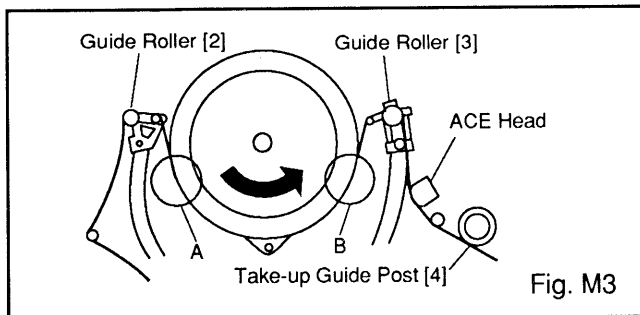
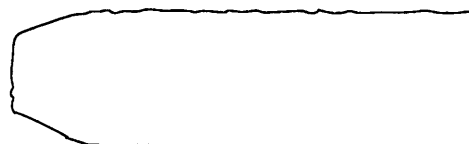

Fig. M3
Fig. M7
1. Play back a blank cassette tape and check to see that the tape runs without creasing at Guide Rollers [2] and [3], and at points A and B on the lead surface. (Refer to Fig M3 and M4.)
2. If creasing is apparent, align the height of the guide rollers by turning the top of Guide Rollers [2] and [3] with a Guide Roller Adj. Screwdriver. (Refer to Fig. M3 and M5.)
3. Check to see that the tape runs without creasing at Take-up Guide Post [4] or without snaking between Guide Roller [3] and ACE Head. (Fig. M3 and M5)
3. Play back the Gray Scale on the Alignment Tape (30HMP2-1 or MH1). Adjust the height of Guide Rollers [2] and [3] (Fig.M3) watching the oscilloscope display so that the envelope becomes as flat as possible. To do this adjustment, turn the top of the Guide Roller with the Guide Roller Adj. Screwdriver.
4. If the envelope is as shown in Fig. M7, adjust the height of Guide Roller [2] (Refer to Fig.M3) so that the waveform looks like the one shown in Fig. M9.
5. If the envelope is as shown in Fig. M8, adjust the height of Guide Roller [3] (Refer to Fig.M3) so that the waveform looks like the one shown in Fig. M9.
6. When Guide Rollers [2] and [3] (Refer to Fig.M3) are aligned properly, there is no envelope drop either at the beginning or end of track as shown in Fig. M9.
Note: Upon completion of the adjustment of Guide Rollers [2] and [3] (Refer to Fig. M3), check the X Value by pushing the Tracking Control Up or Down buttons alternately, to check the symmetry of the envelope. Check the number of pushes to ensure center position. The number of pushes UP to achieve 1/2 level of envelope should match the number of pushes DOWN from center. If required, redo the "X Value Alignment."